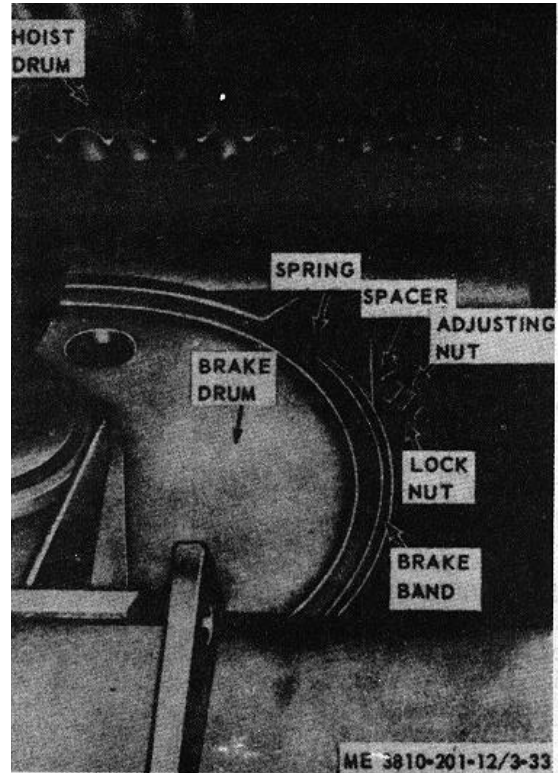

Figure 3-25. Swing brake adjustment.
c. *Swing Brake Adjustment.* To compensate for lining wear, back off locknut (fig. 3-25); tighten adjusting nut just enough to get the proper feel on swing brake lever (fig. 2-24), then tighten locknut (fig. 3-25).